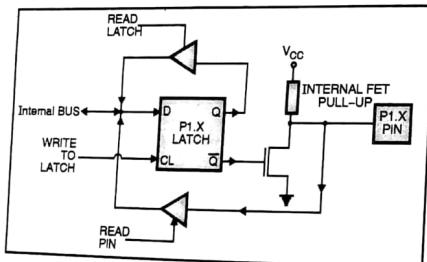

Fig. 3.3.3 : Port 1 circuit Port 1 as simple input port
- Port 1 is a simple I/O port of microcontroller. It does not have any extra function. Hence, the output latch is connected directly to the gate of the lower FET, consisting of a circuit labelled internal pull up. Fig. 3.3.3 shows port 1 circuit.